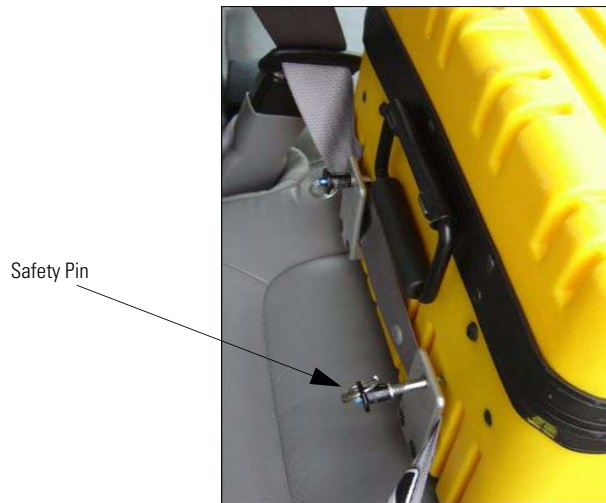

Figure 3.3 Replacing the Safety Pin
- 5 Replace the safety pins in the seatbelt retention loops, as shown in Figure 3.3.